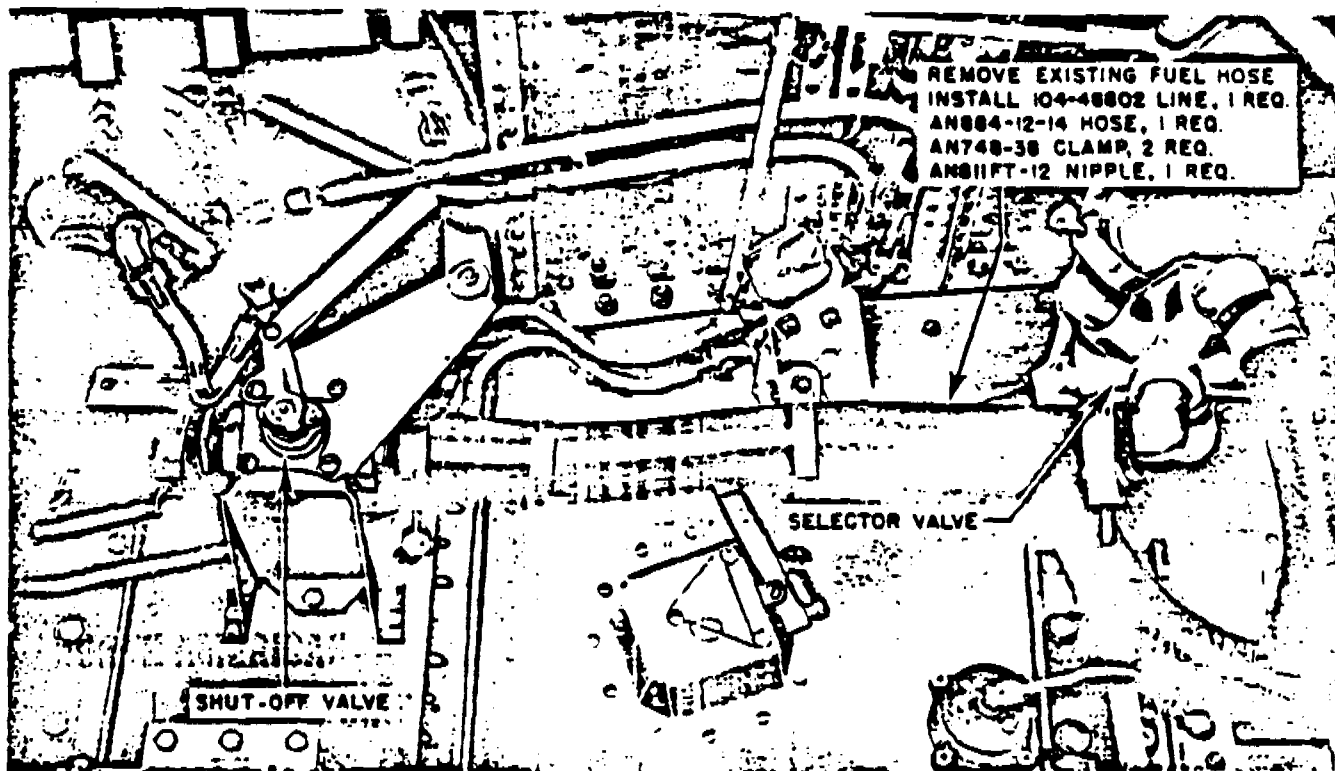

Figure 1 - Left-hand Wheel Well - P-51B and P-51C Airplanes
(1) Locate the fuel hose, part No. 106-488101-22, in LH wheel well connected to the fuel shut-off valve and fuel selector valve. Remove the hose by detaching the clamps on each end and at the timing valve bracket on the center rib midway between the two valves. (See figure 1.)
(2) File or cut the timing valve bracket approximately $\frac{3}{16}$ inch to provide clearance for the new fuel line.